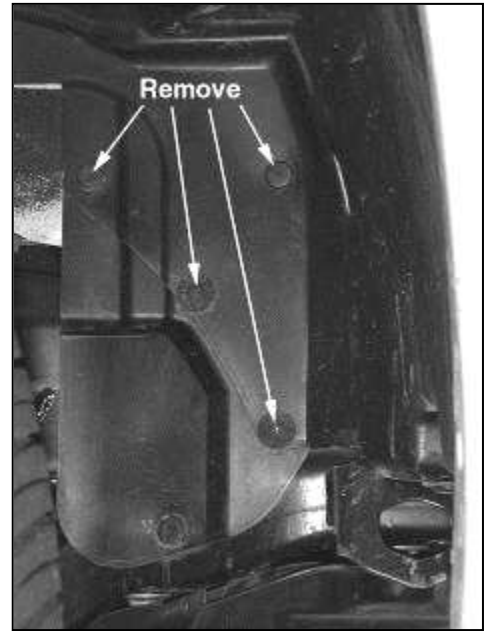

Fig. 4
- g. With the front wheels turned all the way to the right, locate the fender liner's plastic clips. Remove these clips to detach the fender liner from the passenger side wheel well. **(Fig.4)**